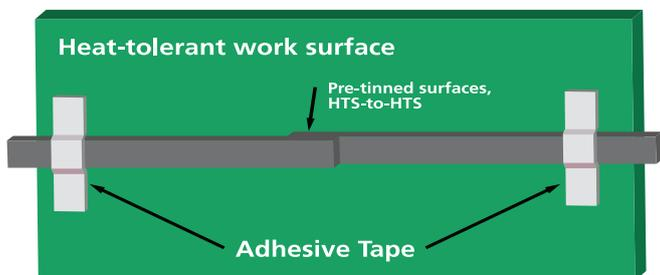

Figure 5. Method of positioning and securing HTS wires for soldering of overlap joint
- Roughly align the wires along their lengths and secure them in position. An example of how to do this is shown in Figure 5. Here, the wires are taped to a heat-tolerant work surface such as a G-10 phenolic plate. Note that the adhesive tape must be far enough away from the solder joint to avoid exposure to temperatures that will damage or burn the tape.